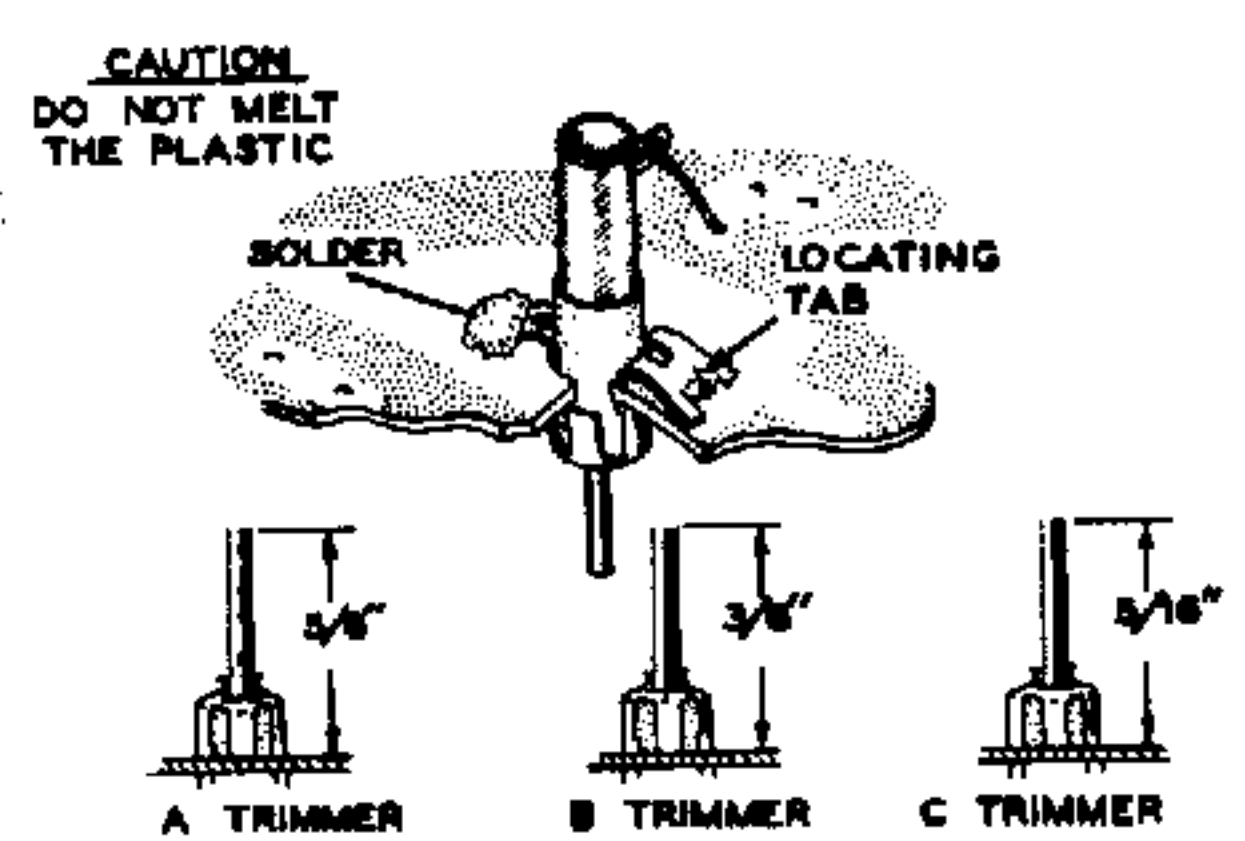

Figure 17
- () Referring to Figure 17, adjust the height of the screw on A TRIMMER, B TRIMMER, and C TRIMMER, as shown.
- (✓) C6, C5, C4. Insert a plastic trimmer in hole A TRIMMER, B TRIMMER, and C TRIMMER from the bottom of the circuit board, see Figure 17, and solder the tab as shown.